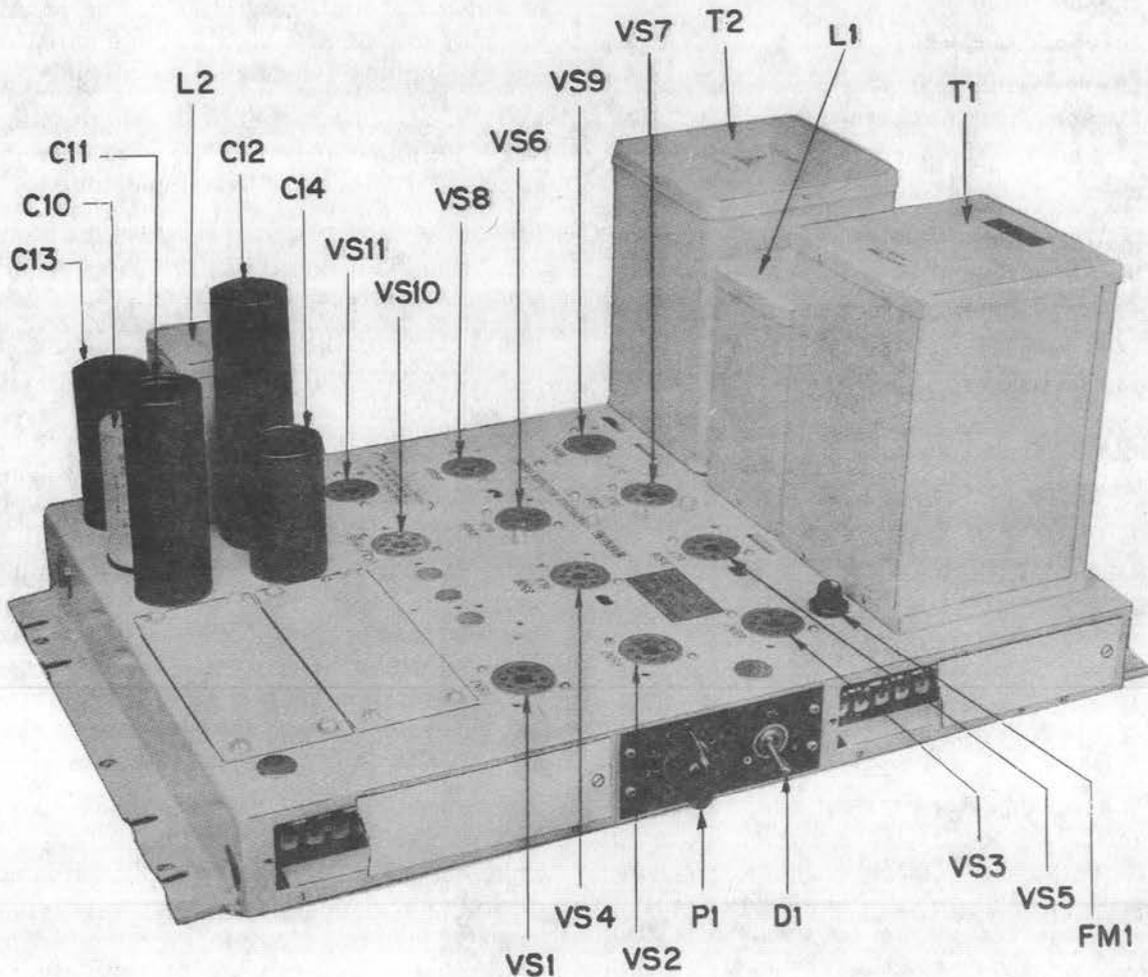

Fig. 1 — 143A Amplifier
1.13 Fig. 1 shows a front view of the 143A amplifier. The other two models are similar in appearance except that additional apparatus units are mounted on the left side of the chassis.